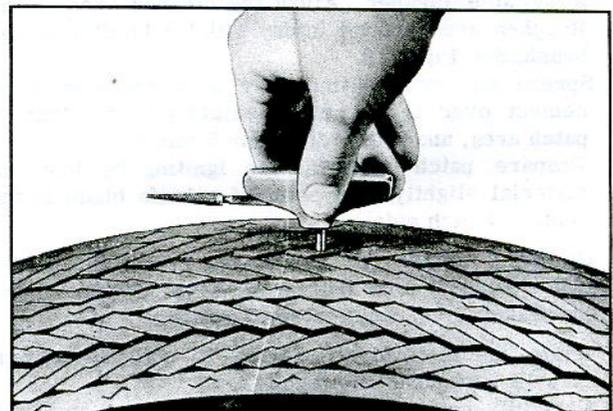
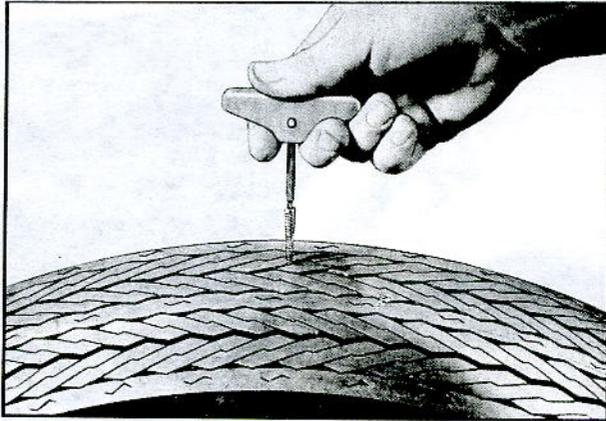

Fig. 14—Making Circular Cut with Reaming Tool
Fig. 15—Cleaning Puncture with Cleaning Needle
3. With cutter shaft of reaming tool in position, make circular cut (approx. 1/4 in. deep) around puncture hole, using twisting action (fig. 14).
4. Flip the screw-type cleaning needle of reaming tool into position and insert into puncture (fig. 15). Apply light pressure only and turn clockwise into puncture channel right down to the handle of the tool, carefully following the direction of the puncture. Retract tool by continuing to turn clockwise but with slight pulling action. Repeat this operation twice. Clean rubber particles, if any, from round cutter of needle, after each retraction. Make sure the small circular cut-out resulting from operation shown in Figure 14 has